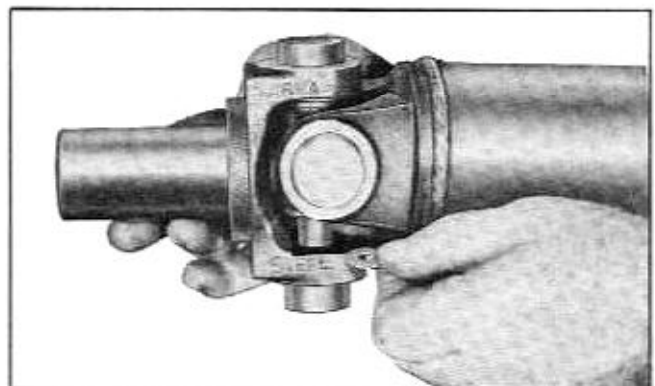

Fig. 4-49 Placing Washers Inside Bearing of Splined Yoke Member
d. With yoke down as far as possible, place one or more flat washers ($\frac{9}{16}$ " O.D.) inside lower bearing (Fig. 4-49). **NOTE:** Total thickness of washers should be $\frac{1}{8}$ " - $\frac{3}{16}$ ".